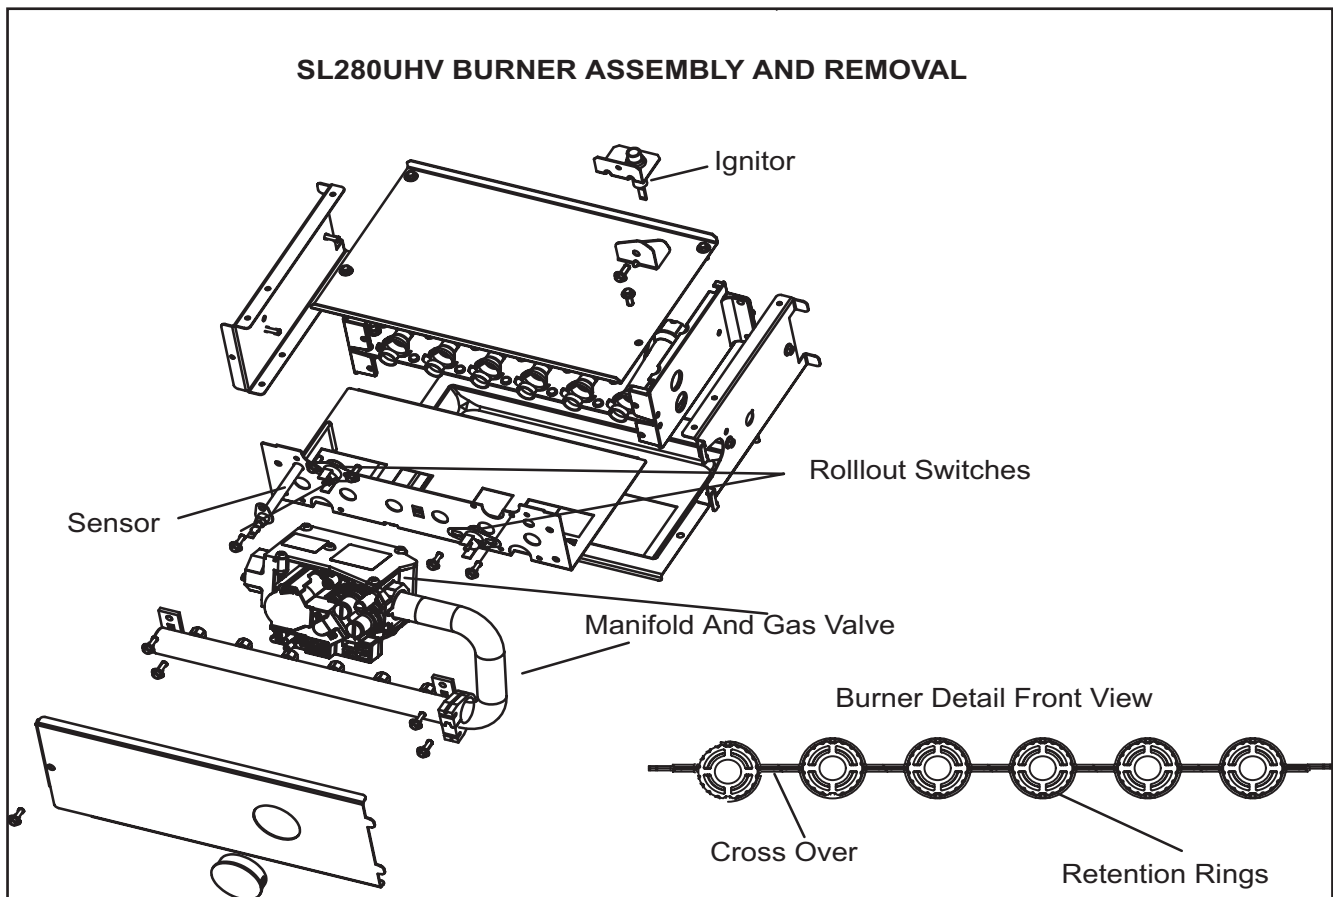

FIGURE 38
- 4 - To clean burners, run a vacuum cleaner with a soft brush attachment over the face of burners. Visually inspect inside the burners and crossovers for any blockage caused by foreign matter. Remove any blockage. Figure 38 shows burner detail.